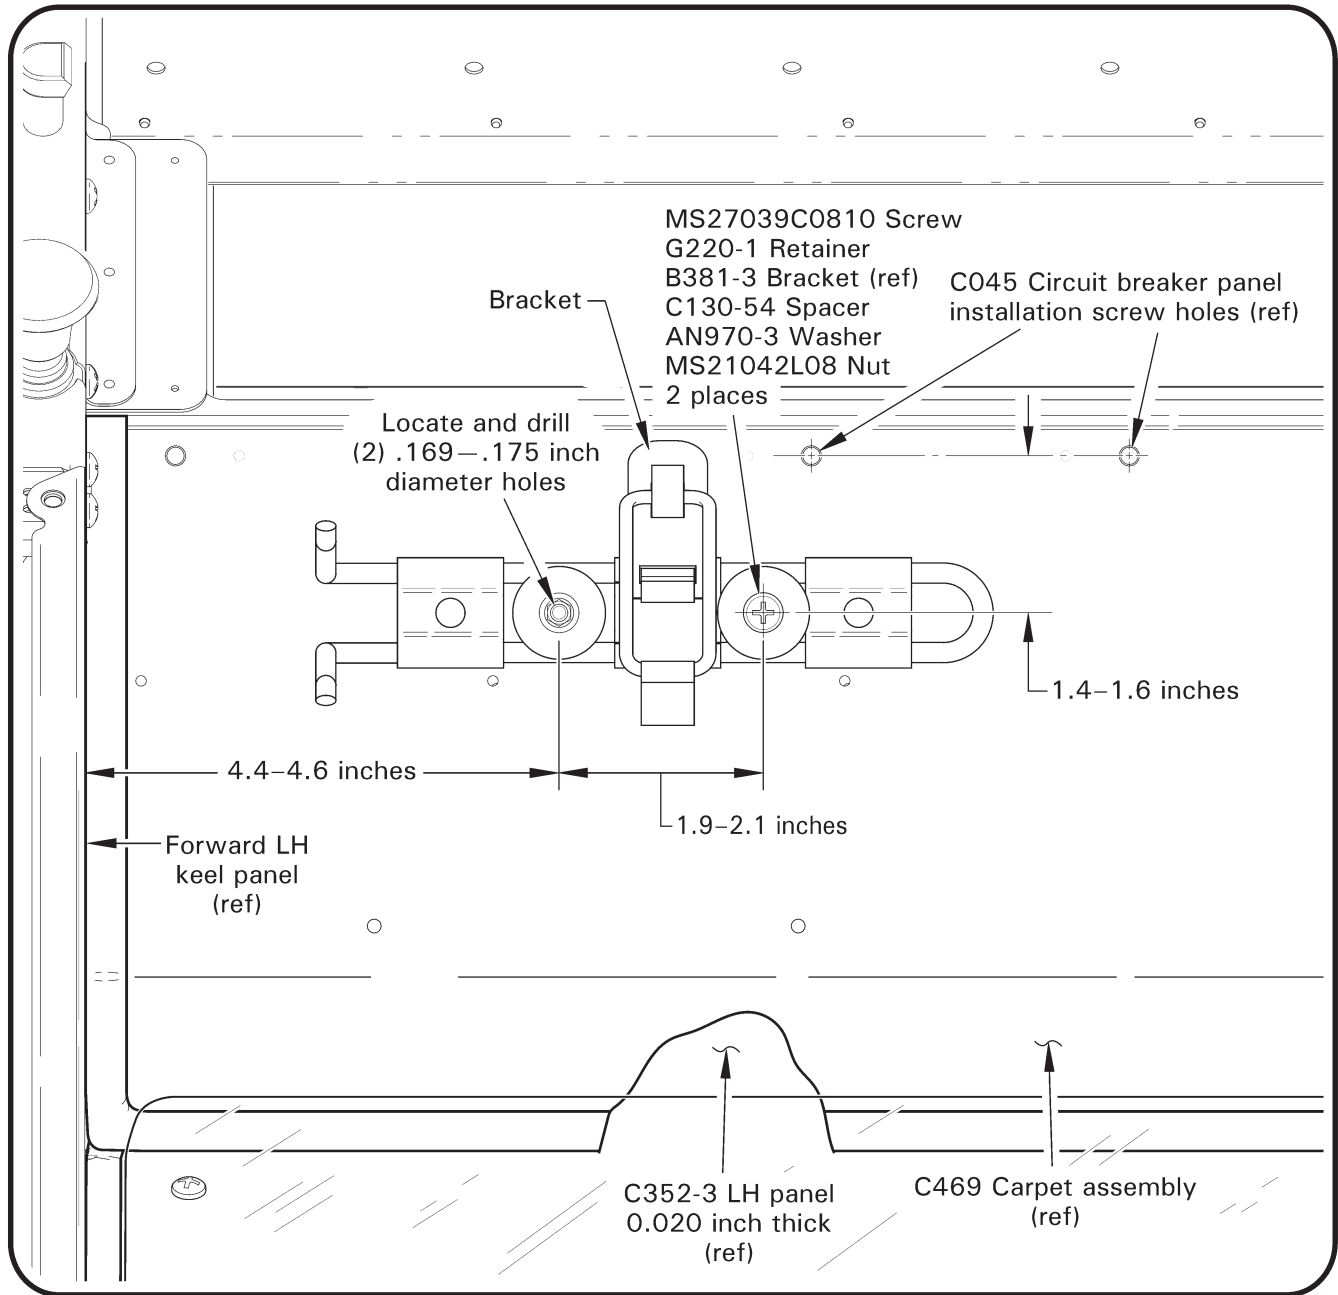

FIGURE 2 Inboard location
- i. Refer to MM § 15-320. Remove carpet from cabin chin as required to locate and drill (2) .169 –.175 inch diameter holes as shown. Deburr holes and clean up debris. Install carpet using B270-8 adhesive.
- ii. Using a pick or similar tool, pierce carpet at newly drilled holes. Install B381-3 bracket using (2) AN526C832R10 screws, (2) C130-54 spacers, (2) G220-1 retainers, and (2) MS21042L08 nuts.
B. Inboard location. Refer to Figure 2.
- i. Refer to MM § 15-320. Gain access to aft side of C352-3 LH panel by removing circuit breaker panel. Remove carpet from panel as required. Using drill stop, locate and drill (2) .169 –.175 inch diameter holes as shown. Deburr holes and clean up debris. Install carpet using B270-8 adhesive.
- ii. Using a pick or similar tool, pierce carpet at newly drilled holes. Install B381-3 or BKT-600 bracket as shown using (2) AN526C832R10 screws, (2) G220-1 retainers, (2) C130-54 spacers, (2) AN970-3 washers, and (2) MS21042L08 nuts.